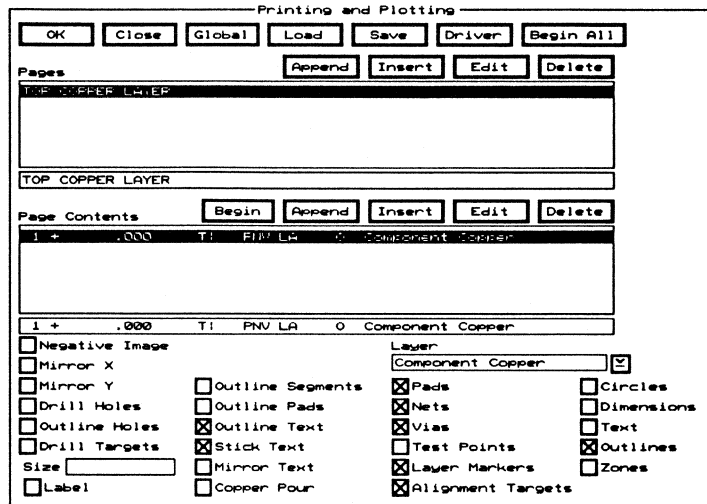

Figure 9-3. The configured **TOP COPPER LAYER** page.
7. Select **Insert** for **Pages**. **TOP COPPER LAYER** displays in the **Pages** list box. The page name **TOP COPPER LAYER** is associated with the items listed in **Page Contents**. The dialog box looks like figure 9-3.